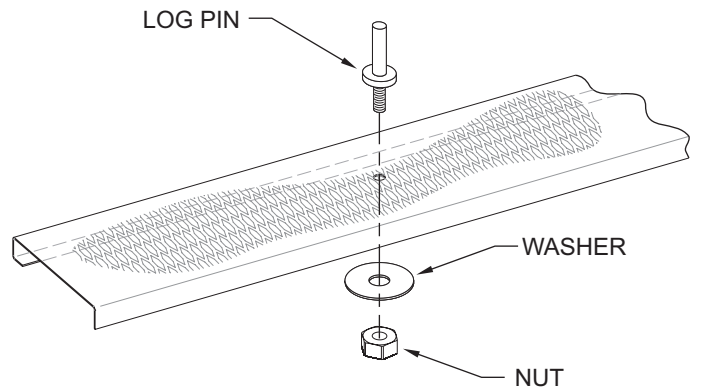

Figure 4
5. Insert two Log Pins in the holes in the rear glass support screen and secure each with a washer and nut. **See Figure 4.**
6. Insert one log pin in one hole in each side glass support screen. Secure each pin with a washer and nut. **See Figure 4.**